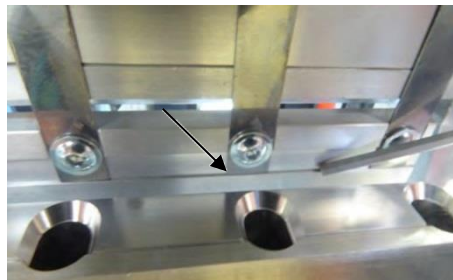

Fig. 33: Lower edge alignment
- Pay attention to the flush alignment of the cutters to the lower edge (fig. 33)